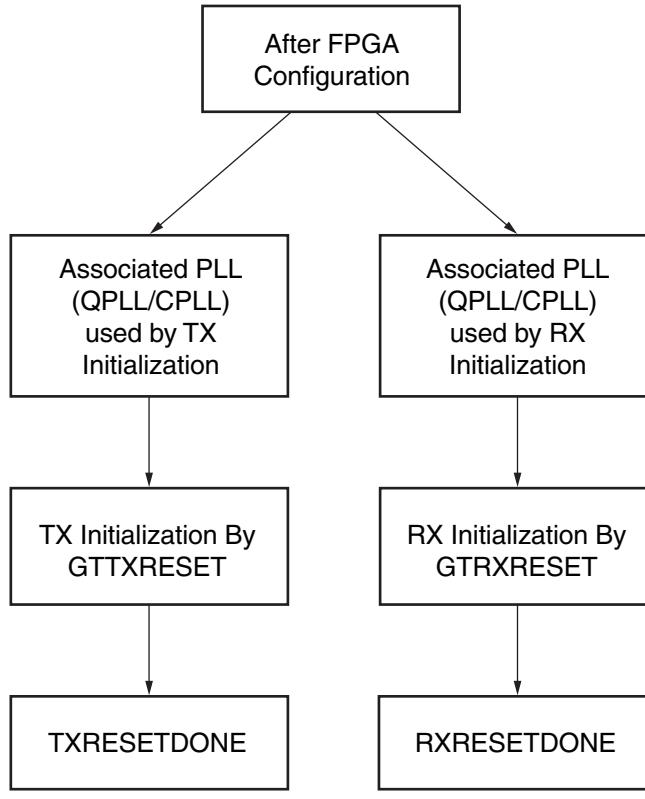

Figure 2-12: GTx/GTh Transceiver Initialization Overview
The GTX/GTH transceiver must be initialized after FPGA device power-up and configuration before it can be used. The GTX/GTH transmitter (TX) and receiver (RX) can be initialized independently and in parallel as shown in Figure 2-12. The GTX/GTH transceiver TX and RX initialization comprises two steps: